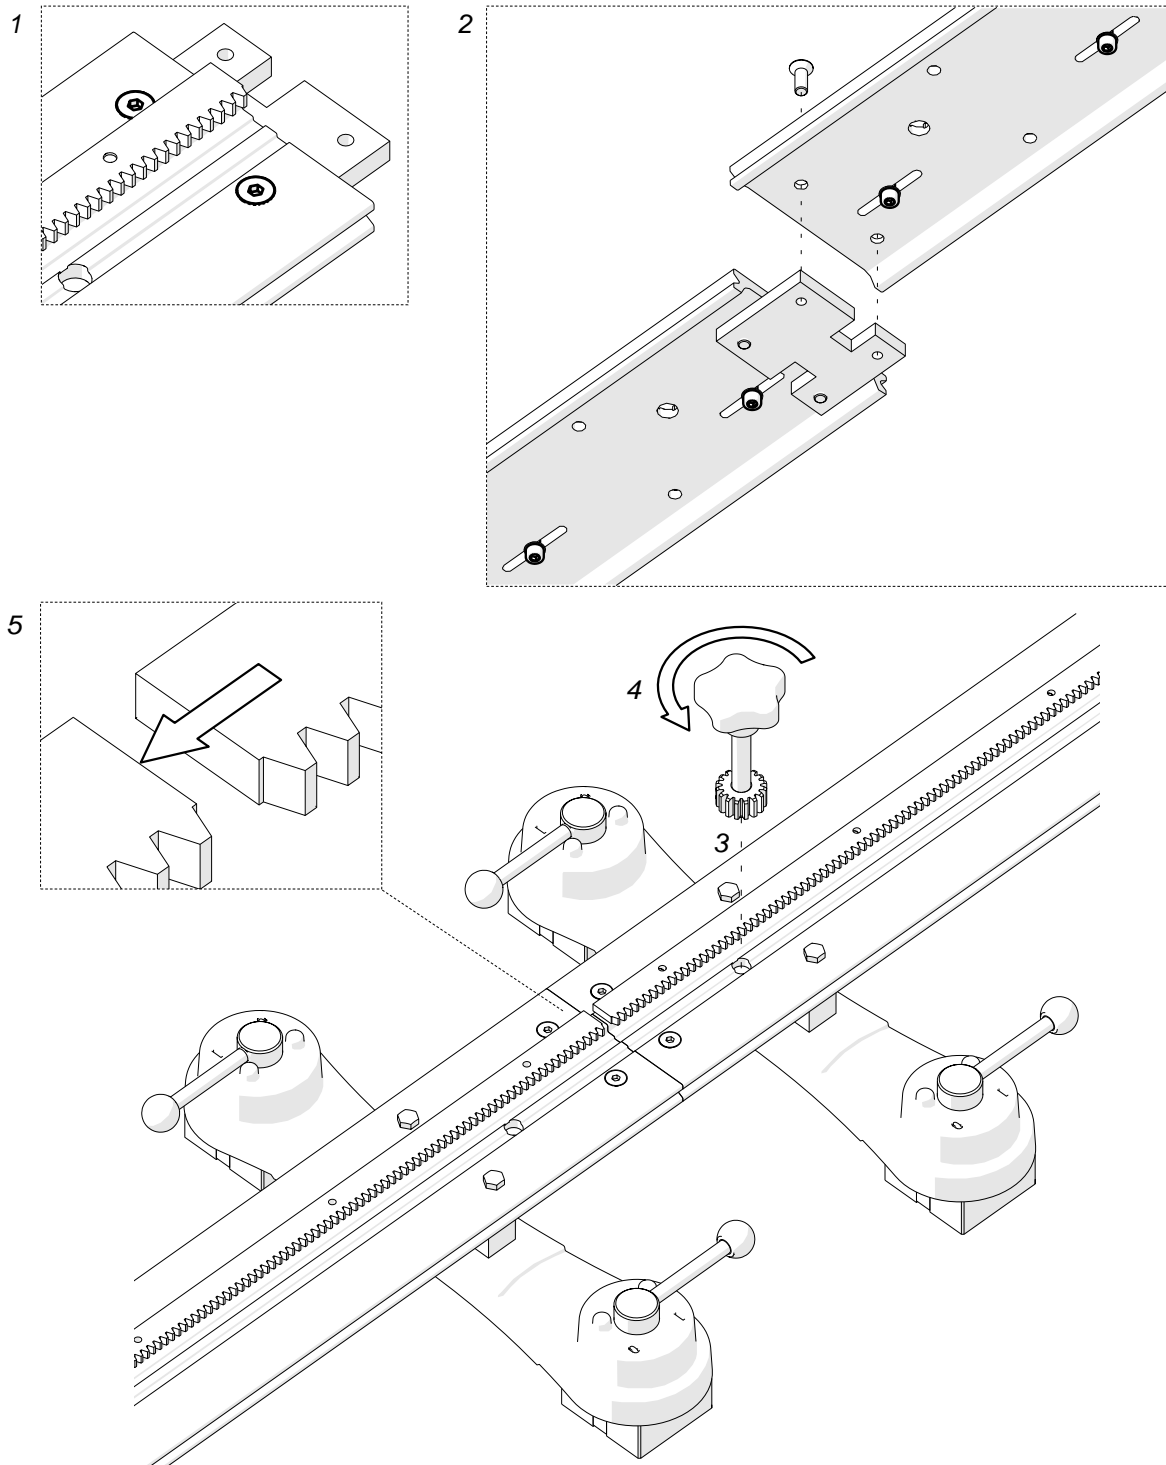

Fig. 2. Removing the gap between the gear racks of a semi-flexible track
Before attaching additional rails to a semi-flexible rail placed on a curvature, loosen the screws of the connecting plates (1, Fig. 2) and of the gear racks (2) with the 4 mm hex wrench. Next, attach the rails, clamp them with levers, and then tighten the connecting plates. Place the gear rack adjustment tool into the hole (3), rotate the tool to the left (4) to remove the gap (5) between the gear racks, and then tighten the leftmost screw and the rightmost screw of each gear rack (2).